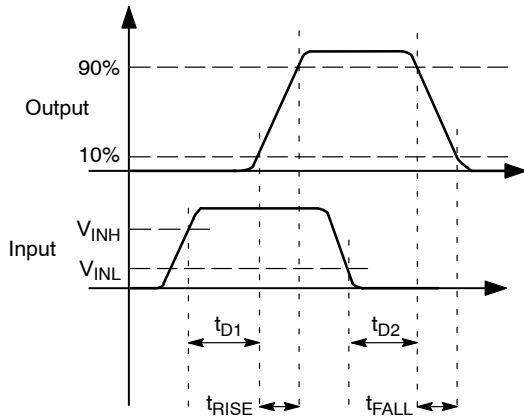
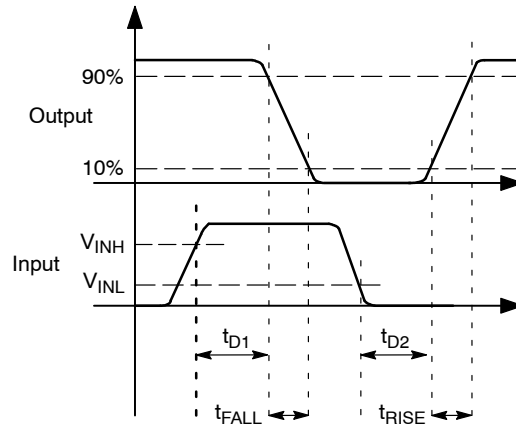

Figure 3. Non-Inverting
Figure 4. Inverting
11. See Timing Diagrams of Figure 3 and Figure 4.